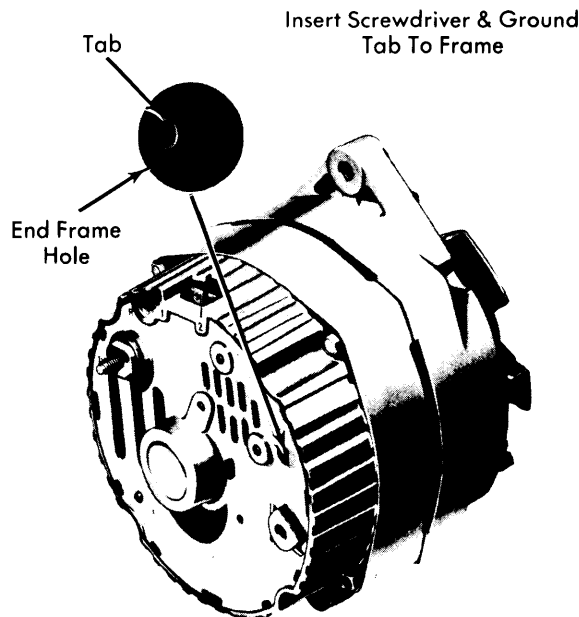

Fig. 2 Grounding Fields Test
2) Disconnect battery ground cable. Connect an ammeter in the circuit at the "BAT" terminal of alternator. Reconnect battery ground cable. Turn on all available accessories. Connect a carbon pile across battery. Operate engine at moderate speed and adjust carbon pile as required to obtain maximum current output. If ampere output is within 10% of rated output as stamped on alternator frame, alternator is not defective. If output is not within 10% of rated output, ground the field winding by inserting a screwdriver into test hole (see Fig. 2). **CAUTION** — Tab is within $\frac{3}{4}$ " of casting surface, do not force screwdriver deeper than one inch into end frame.